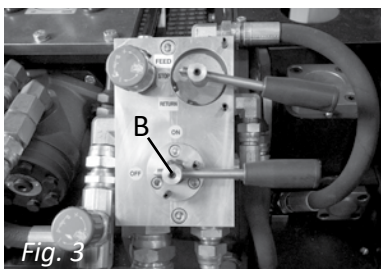

Fig. 3
4. Turn the Start/Stop Control (B, Fig. 3) to the On position to ensure clockwise rotation of blades. Turn Off.